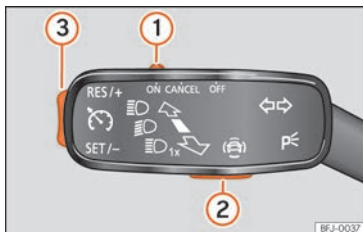

Fig. 157 On the turn signal lever: buttons to operate the speed limiter.
To change between the driving assistance systems, press button  >>> Fig. 157 ②, then select with the right thumbwheel on the multi-function steering wheel in the instrument panel menu and press the thumbwheel to confirm your selection.
- Move control » **Fig. 157 ①** to position **ON** and press button **②**.
- While driving, press button » **Fig. 157 ③** in the area **SET/-**.
You can set the speed using button » **Fig. 157 ③**:
- Move control » **Fig. 157 ①** to position **OFF**.
If you want to temporarily deactivate the speed limiter, e.g. for overtaking, move the control » **Fig. 157 ①** to position **CANCEL** or press button **②**.
After overtaking, the speed limiter can be activated with the previously programmed speed by pressing button » **Fig. 157 ③** in the area **RES/+**.